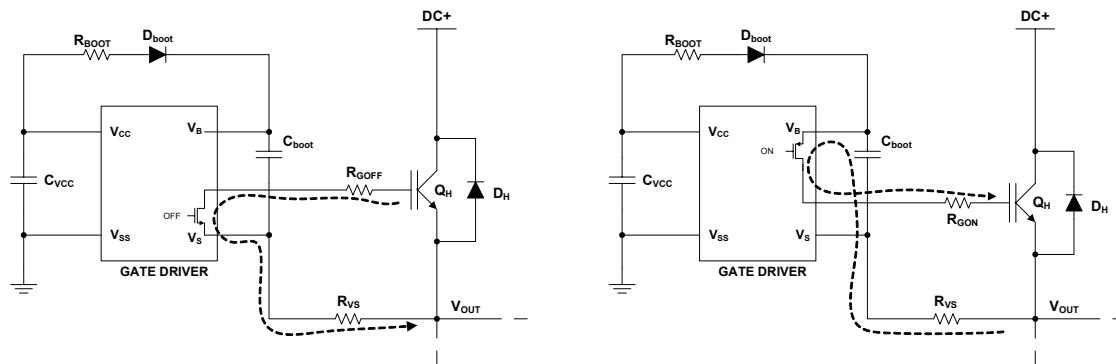

Figure 12: Gate turn-on and turn-off with R_{VS}
3. R_{VS} takes also part in turn-on ($R_{GON}+R_{VS}$) and turn-off resistor sizing ($R_{GOFF}+R_{VS}$) as shown in figure 12.